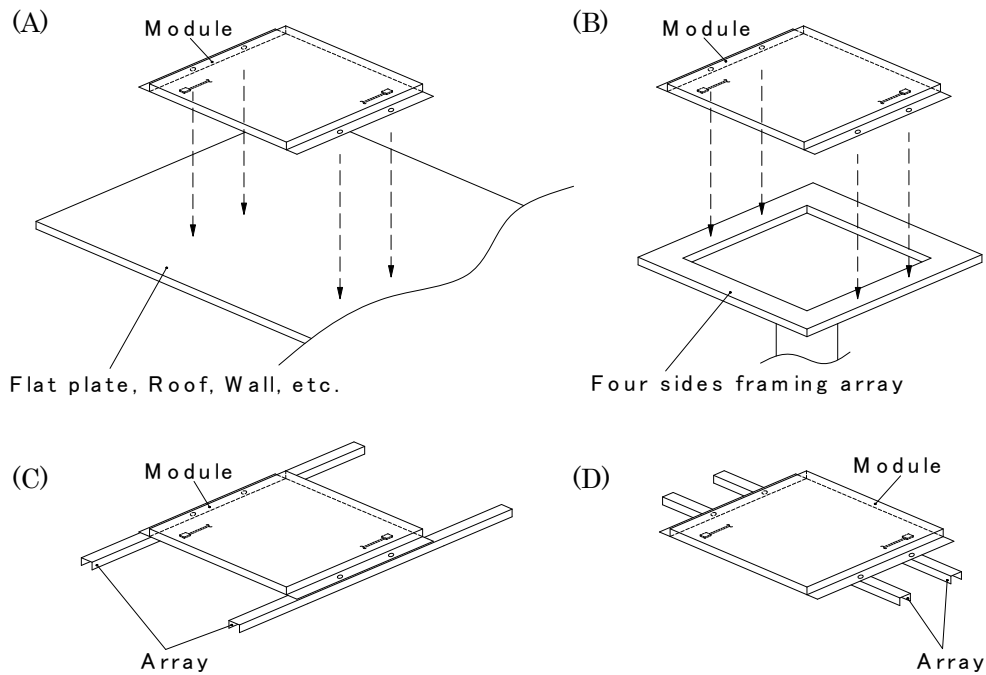

Figure 1
Wind pressure resistance	Front side or back side of the photovoltaic module is less than 2400 Pa when the installation conditions of (A) or (B) of "Figure 1" are applied.
Local limit	<ul style="list-style-type: none"> • An area where there is no exposure to corrosive gases. • An area where there is no direct exposure to seawater. • An area where snow load is less than 2400 Pa, when the installation conditions of (A) or (B) of "Figure 1" are applied.
- ① Do not use this module for any purpose except a photovoltaic system.
- ② This module cannot be used as a roofing material.
- ③ This module does not have fire prevention and waterproofing attributes.
- ④ Never use any concentration device because it may break the module.
- ⑤ No blocking diode is installed in this module. Please perform prevention measures for reverse current to the module with equipment, such as a blocking diode or a charge controller.
- ① When choosing a site, avoid trees, buildings or obstructions, which could shadow the modules, especially during the winter months when the height of the sun is lowest in the year.
- ② Fix installation holes by screws and install solar module by supporting four sides' frames. (Refer to "Figure 1".) Attach four sides' frames to installation plate and fix four installation holes by screws, like (A) and (B). Do not install solar module like (C) and (D). For (A) or (B), prepare a frame which has strength of 2400Pa or more.
- ③ Although the anodized aluminum processing is applied to the frame of this module, in a corrosive environment, galvanic corrosion due to contact with a different kind of metal may occur on rare occasions between the frame and another material. In that case, take measures to prevent corrosion.
- ④ As an example to prevent galvanic corrosion, we recommend using washers made of resin between the module frame and the mounting structure.